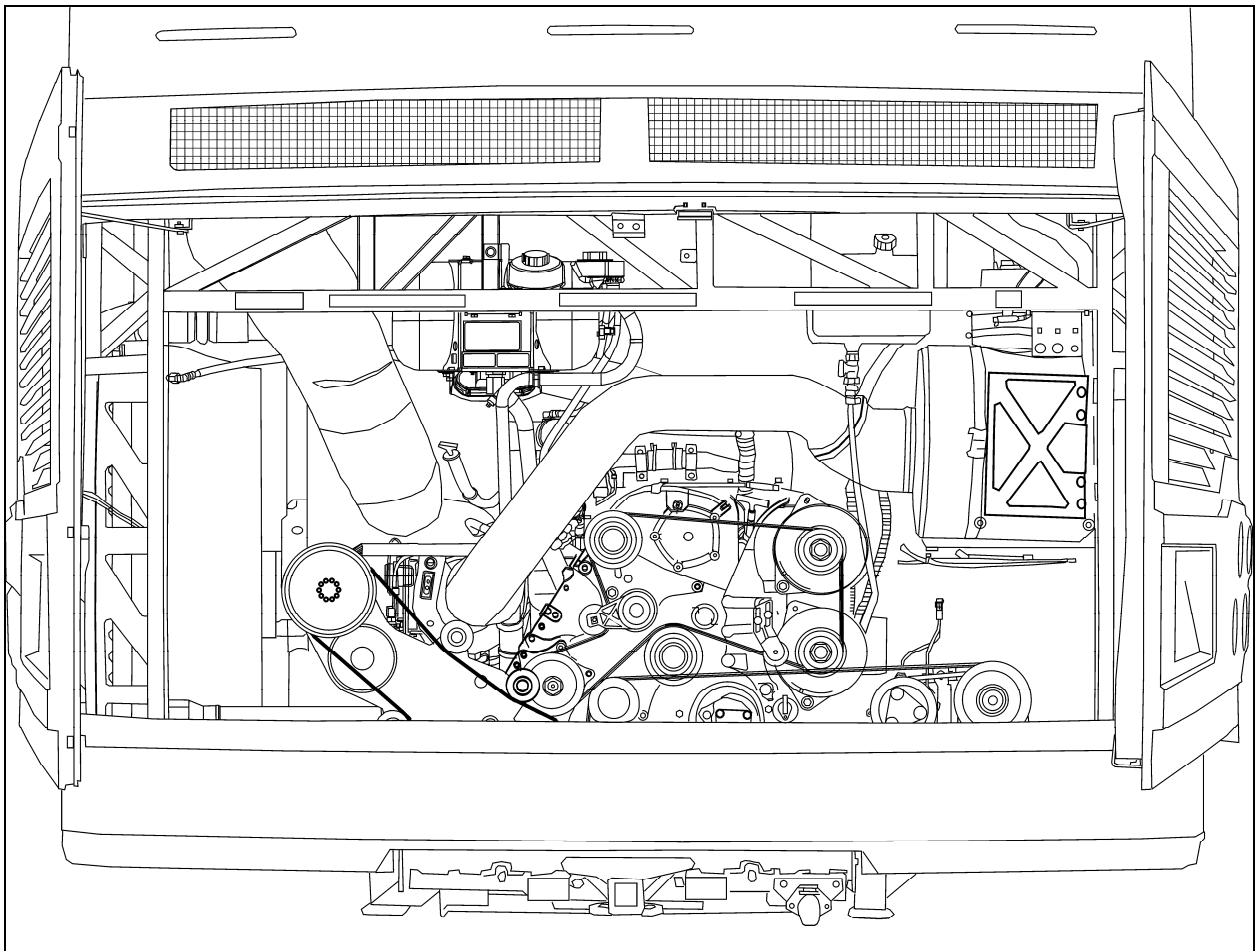

FIGURE 12: ENGINE COMPARTMENT XLII MTH (TYPICAL)
6. Disconnect and remove the engine-air intake duct mounted between air cleaner housing and turbocharger inlet (Fig.12).
7. Disconnect and remove the air intake duct mounted between the air cooler outlet and the engine intake (Fig.12).
8. Disconnect and remove section of coolant pipe assembly mounted between the radiator outlet and the water pump inlet (Fig.12).
10. Disconnect the electric fan-clutch connector located near the cooling fan right angle gearbox (Fig. 12).
12. Disconnect and remove the air intake duct mounted between the turbocharger outlet and the air cooler inlet (Fig. 12).
19. Remove the power steering pump, leaving the supply and discharge hoses connected to it (Fig. 12).
20. Disconnect the oil delivery hose from the valve located at the reserve tank drain (Fig. 12).